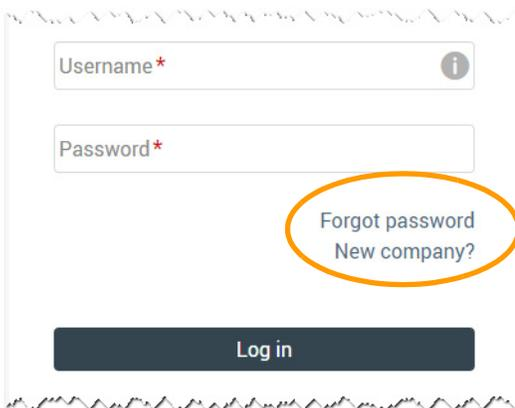

Figure 3. Authentication Window (login)
2. Click **New company?** as shown in Figure 3.